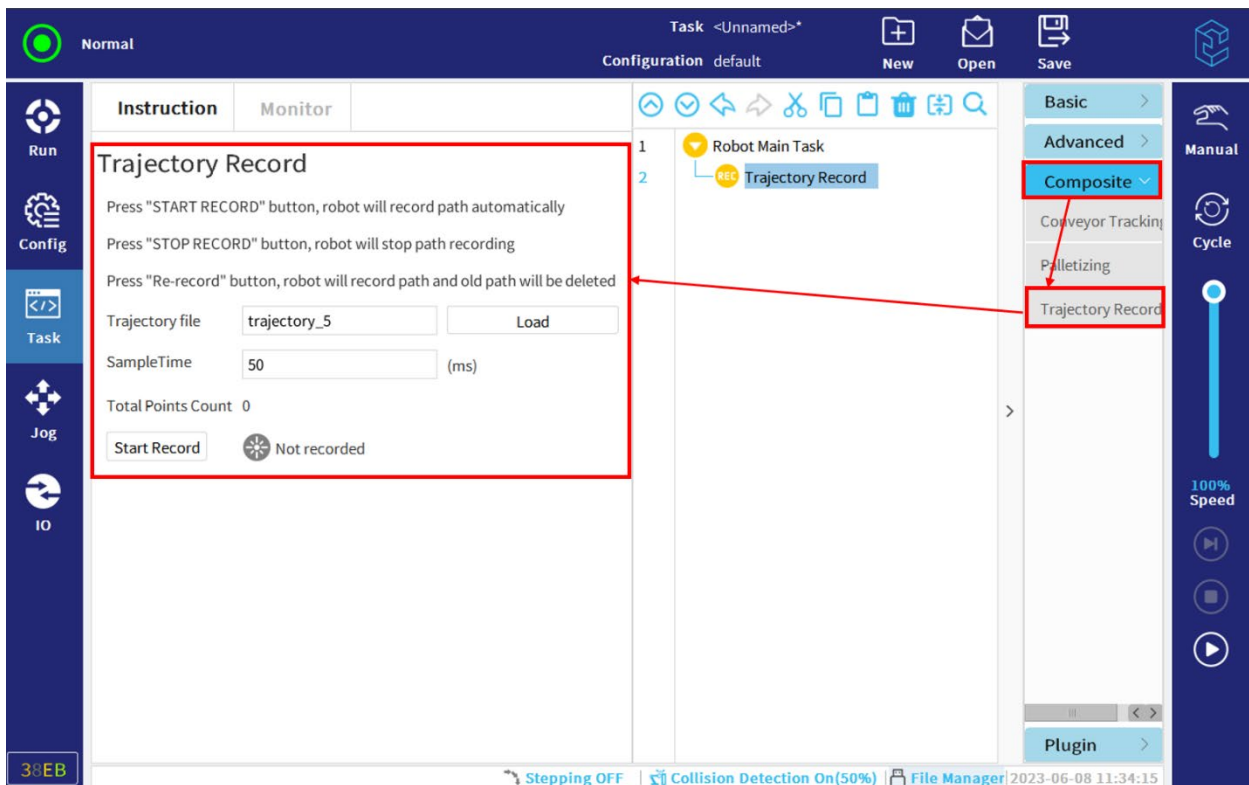

Figure 12-36 Recording the trajectory
4. Click "Stop Re-record", the robot will start to make a record again and the previous path will be overwritten, as shown in Figure 12-36.